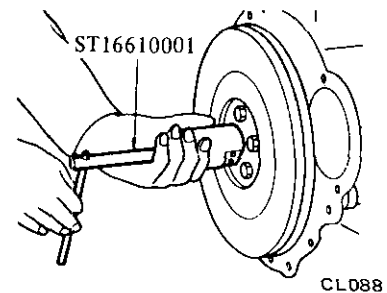

Fig. CL-13 Removing pilot bushing
3. Remove pilot bushing in crankshaft by Pilot Bush Puller ST16610001. See Figure CL-13.